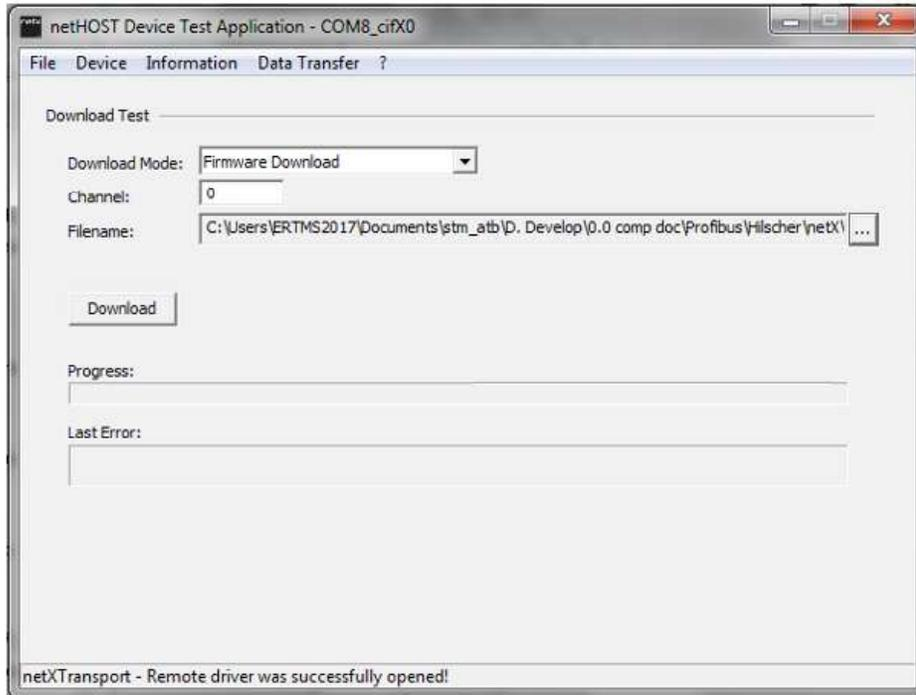

Figure 45: Download mode [netHOST\_download\_settings]
20. The pop-up "netHOST Device Test Application – COM8\_cifX0" appears. Select the "Download Mode" "Firmware Download" and click "Download" (Figure 45, STMA-69282);